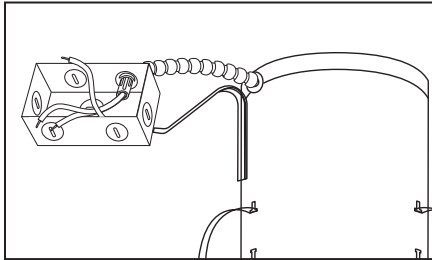

Figure 7
Step 2. Remove wiring box cover. Remove the appropriate knock-out to connect flexible metal conduit or non-metallic cable to wiring box with proper connectors (by others) (Fig. 7).